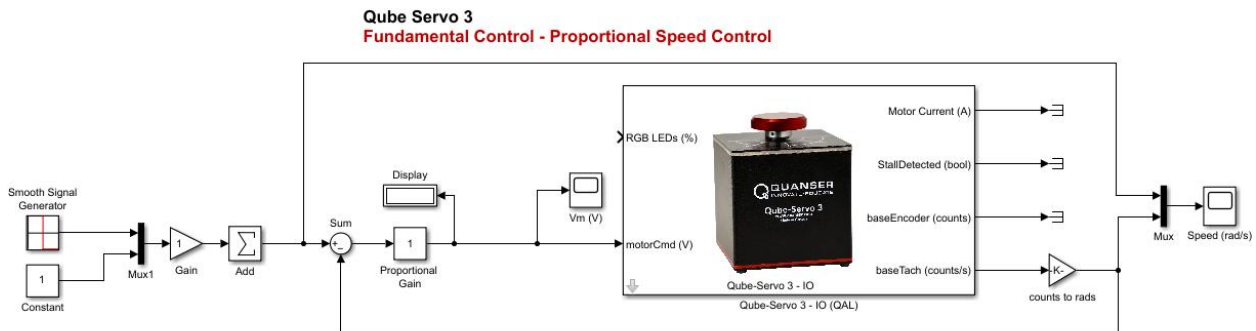

Figure 6: Unity feedback position control for the Qube-Servo 3
27. Open the qs3_proportional_speed.slx file, as shown in Figure 6. Update the gains to convert tach counts/s into rads/s from the instrumentation labs.
28. Add a **Smooth Signal Generator** block and configure it to output a square wave with amplitude of 1 and frequency of 0.2 Hz. Connected as shown in Figure 6. The **Gain** and **Add** blocks make sure that your signal after the **Add** will be a square wave from 0 to $2 \cdot \text{Gain}$.